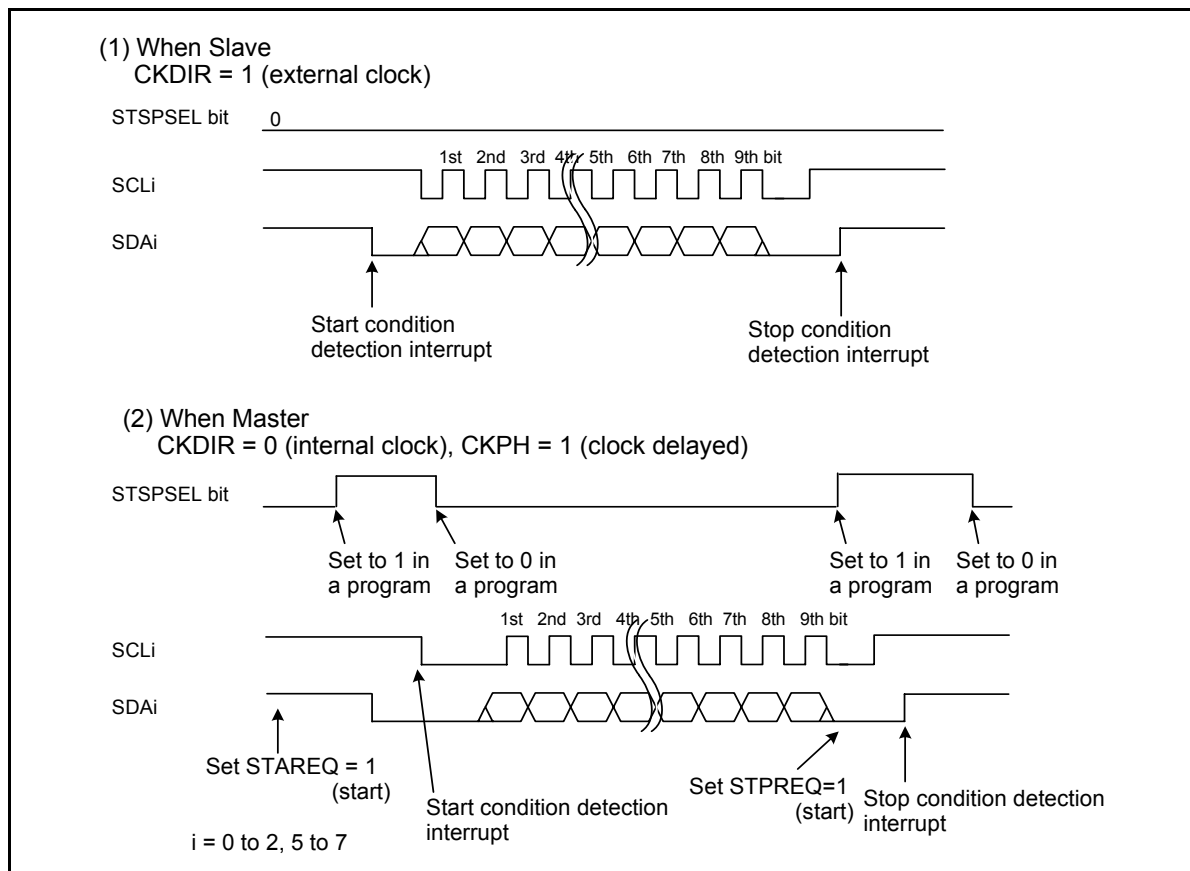

Figure 17.27 STSPSEL Bit Functions
- See Figure 17.27 "STSPSEL Bit Functions".